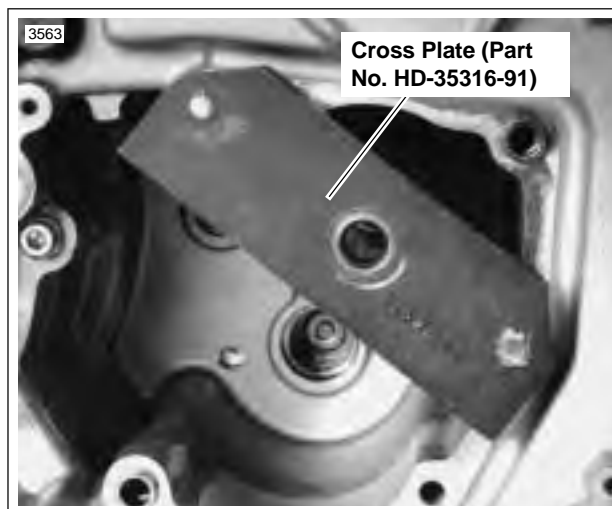

Figure 6-56. Cross Plate Mounting
1. Locate MAIN DRIVE GEAR REMOVER AND INSTALLER (Part No. HD-35316-A). See Figure 6-56. Place support bracket pins in appropriate holes in transmission case.